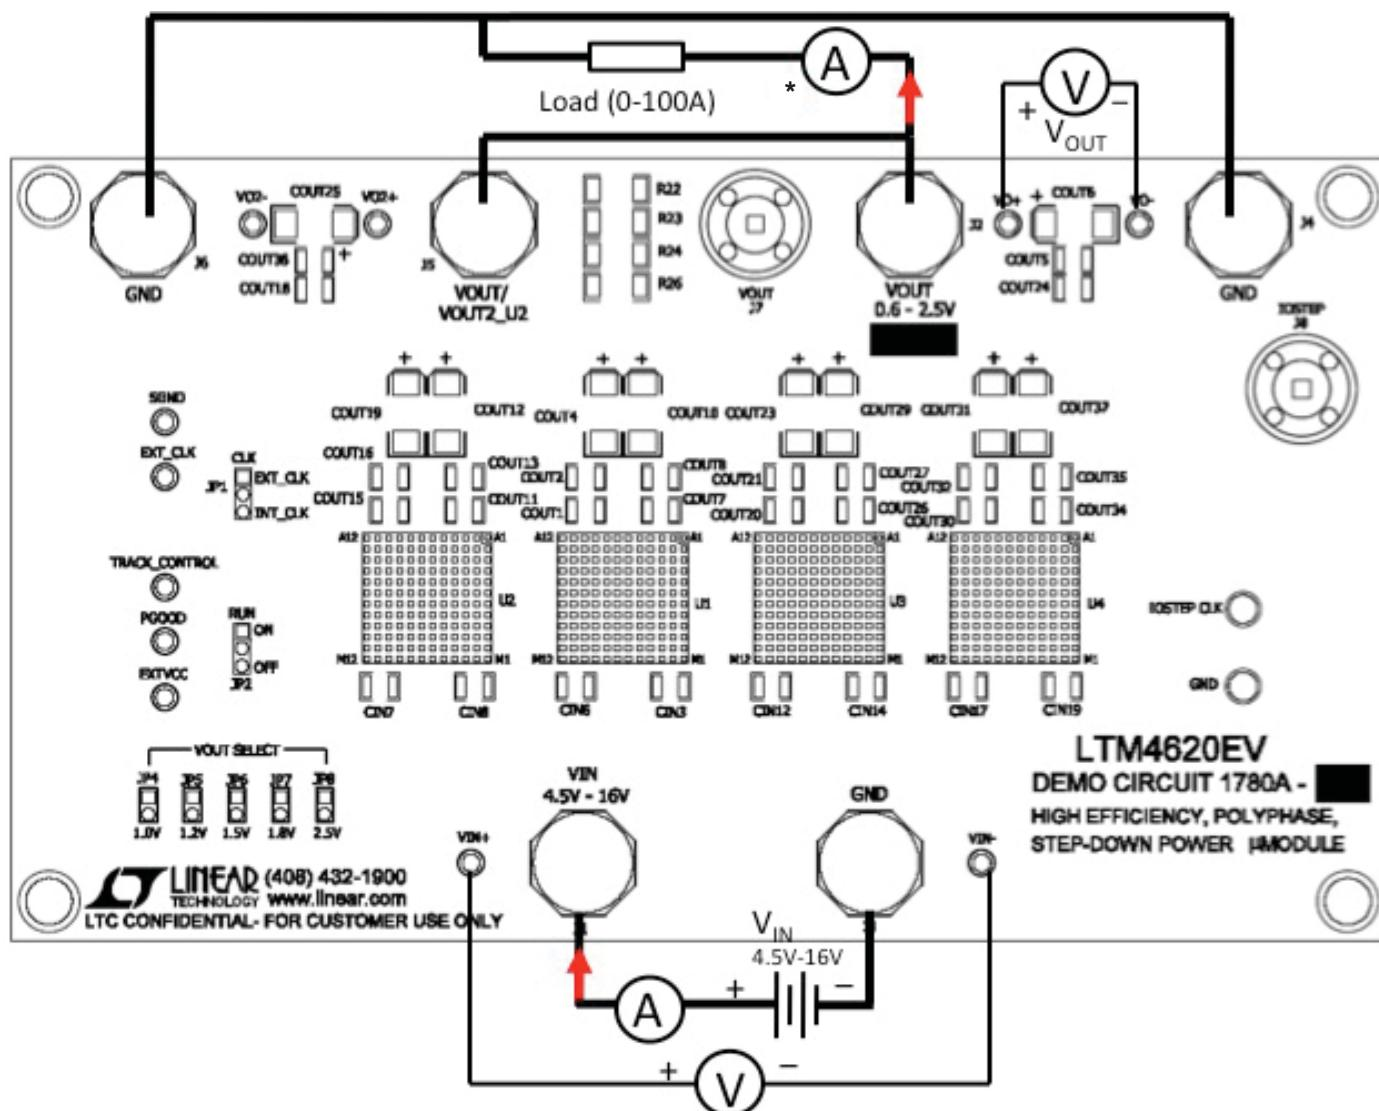

Figure 2. Test Setup of DC1780A-C
Demonstration circuit DC1780A-C is easy to set up to evaluate the performance of PolyPhase operation of the LTM4620EV. Due to the high input/output current, select a proper input supply/load/cable which can sustain the full load operation. Please refer to Figure 2 for proper measurement setup and follow the procedure below:
2. With power off, connect the input power supply, load and meters as shown in Figure 2. Preset the load to 0A and V_{IN} supply to 12V.